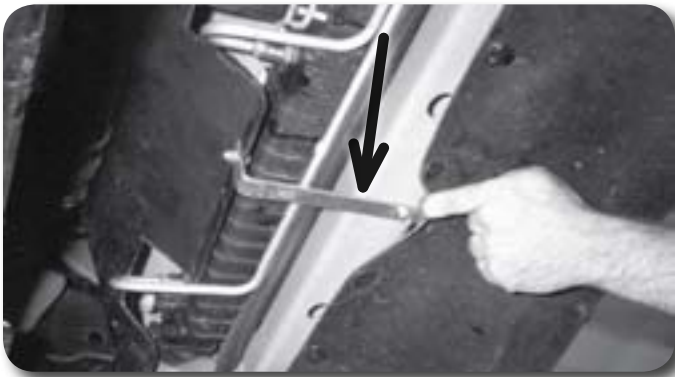

Figure 14
59. Attach the lower fan shroud bracket **Figure 14**. Hold the bracket in the proper location and use the bracket as a template to mark the hole locations. Drill 9/32" holes at the marks on the core support and fan shroud.